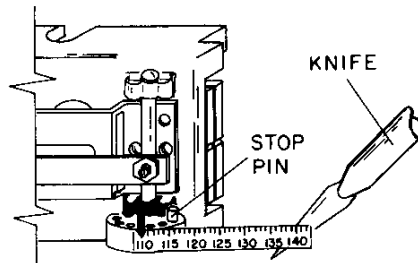

Fig. 13
4. Attach the dial strip to the set point dial, positioning the lowest number of the span over the lowest number on the dial. (see Fig. 13).